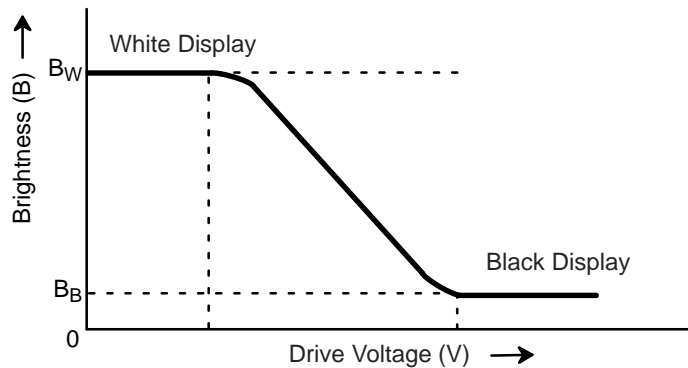

Figure 9-2. Voltage - Brightness Characteristics
Determined by formula (1) based on Figure 9-2 Voltage – Brightness Characteristics.